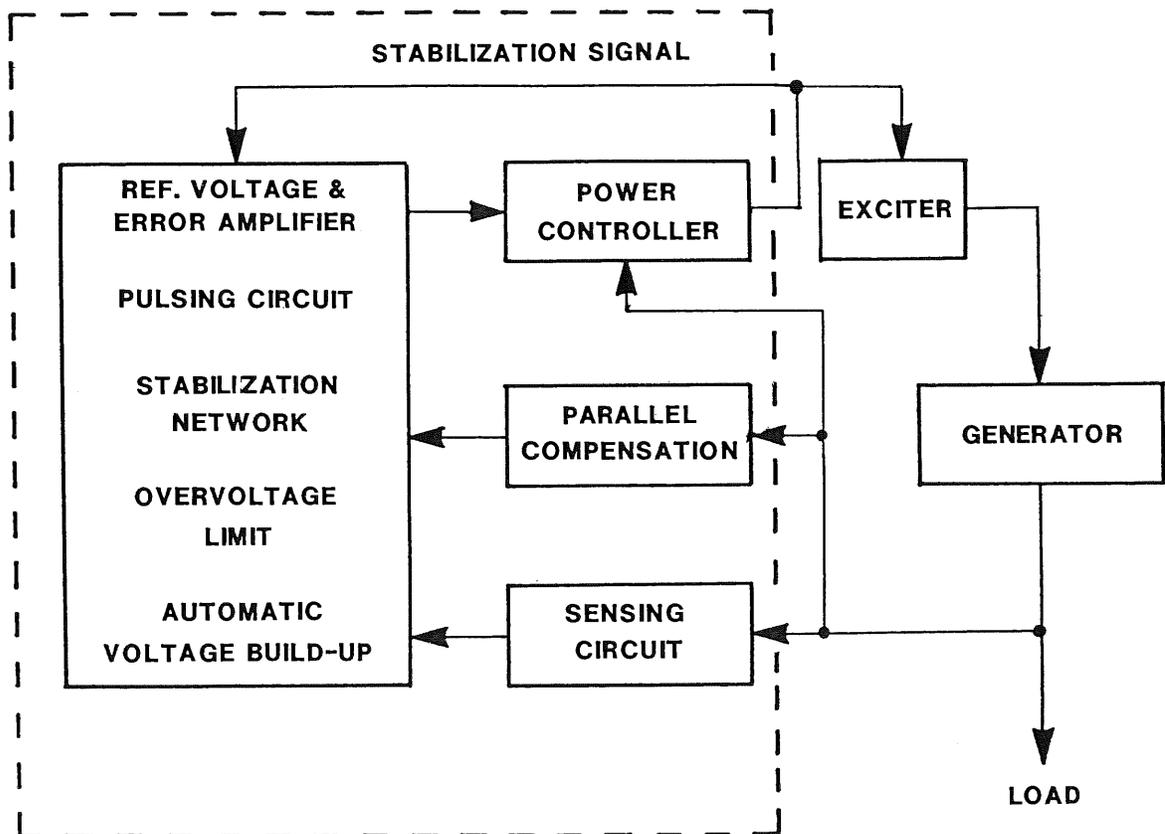

Figure 2-1. Voltage Regulator Block Diagram
2.1 FUNCTIONAL CIRCUITS (Refer to Figure 2-1)